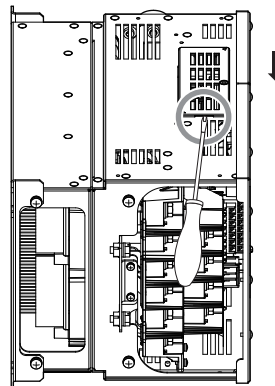

Figure 4.29 Removing the CN19 Connector Cover
3. Insert a straight-edge screwdriver into the opening as shown in Figure 4.29, then remove the CN19 connector cover by sliding it as shown in Figure 4.29.